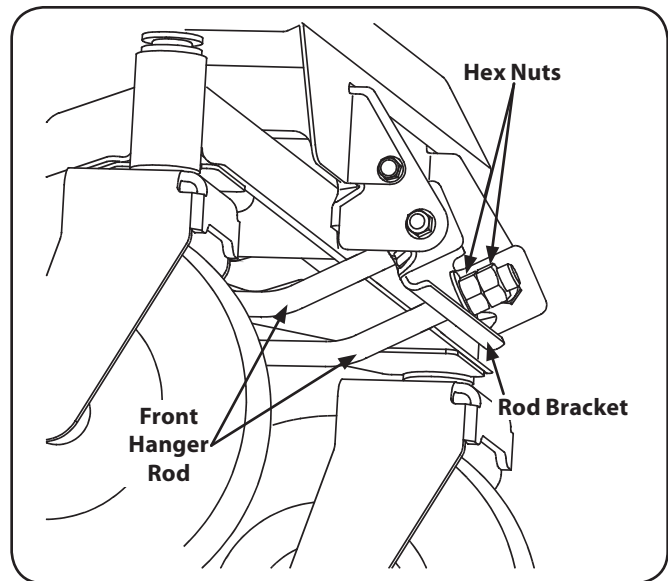

Figure 6-8
4. From the front of the tractor, loosen the outer hex nuts on the deck front hanger rod and turn them away from the inner nuts. Refer to Figure 6-8.
5. If the front of the deck was too low, turn the inner hex nuts clockwise against the hanger bracket to shorten the front hanger rod and raise the front of the deck. Refer to Figure 6-8.